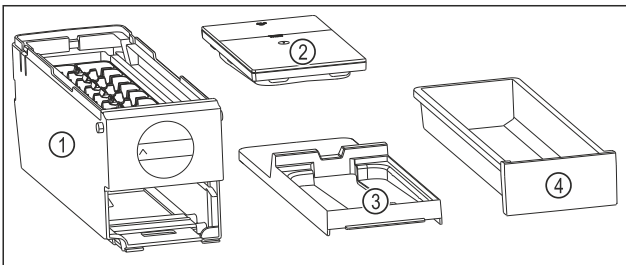

Fig. 136 Components of the EasyTwist-Ice
- ▷ EasyTwist-Ice is disassembled in four parts. (see Fig. 136)
- ▶ Only disassemble the EasyTwist-Ice into the illustrated components. (see Fig. 136)
- ▶ Clean the EasyTwist-Ice body Fig. 136 (1) as a complete unit.